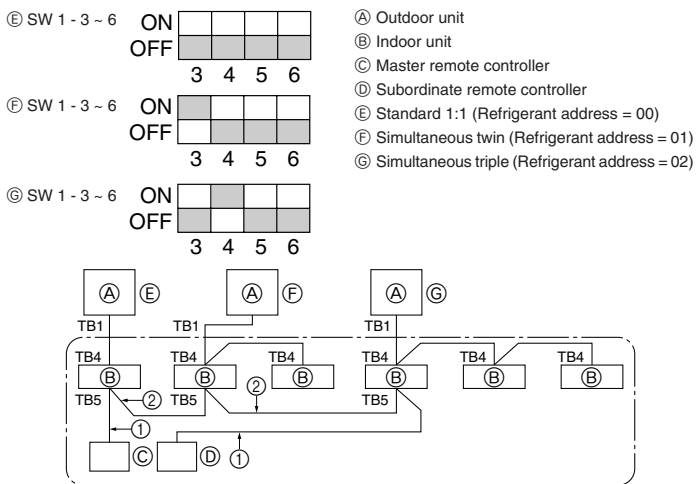

Fig. 9-1
① Supply power (circuit breaker).
② After the gas stop valve is closed, set the SW1-1 switch on the control board of the outdoor unit to ON. The compressor (outdoor unit) and ventilators (indoor and outdoor units) start operating and refrigerant collecting operation begins. LED1 and LED2 on the control board of the outdoor unit are lit.
③ Because the unit automatically stops in about two to three minutes after the refrigerant collecting operation (LED1 and LED2 are lit), be sure to quickly close the gas stop valve. When LED1 and LED2 are lit and the outdoor unit is stopped, open the liquid stop valve completely, and then repeat step ② after three minutes have passed.
④ Turn off the power supply (circuit breaker).
9. System control (Fig. 9-1)